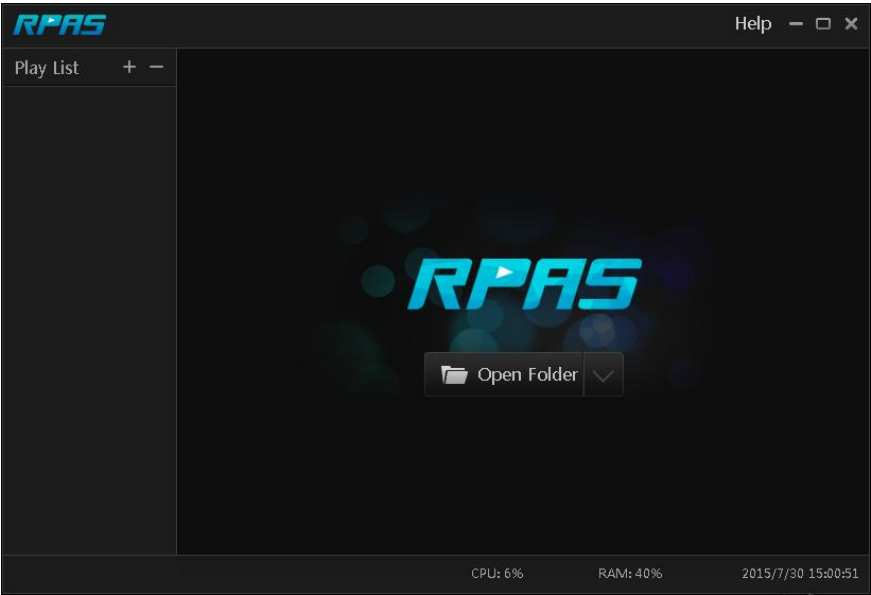

Fig 11-1
- If you select the private format when backing up recorded video by SMT, a RPAS compression package will be backed up to the USB device automatically along with the recorded video data. Uncompress the “RPAS.zip” and then click “RPAS.exe” to set up RPAS. After the setup is completed, open RPAS player and then click “Open Folder” in the middle of the interface to select the record data. Refer to Fig 11-1.